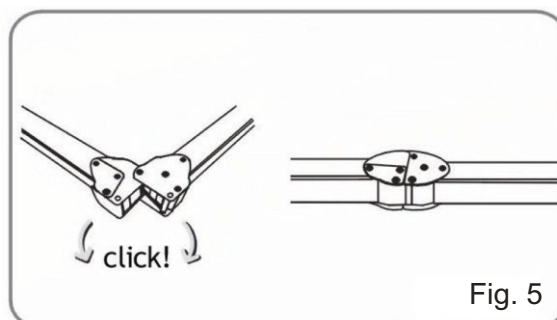

Fig. 5
2. Unfold the frame until the latch on the hinge "clicks" into place. Repeat the procedure for the shorter sections. (Fig. 5 + 6)